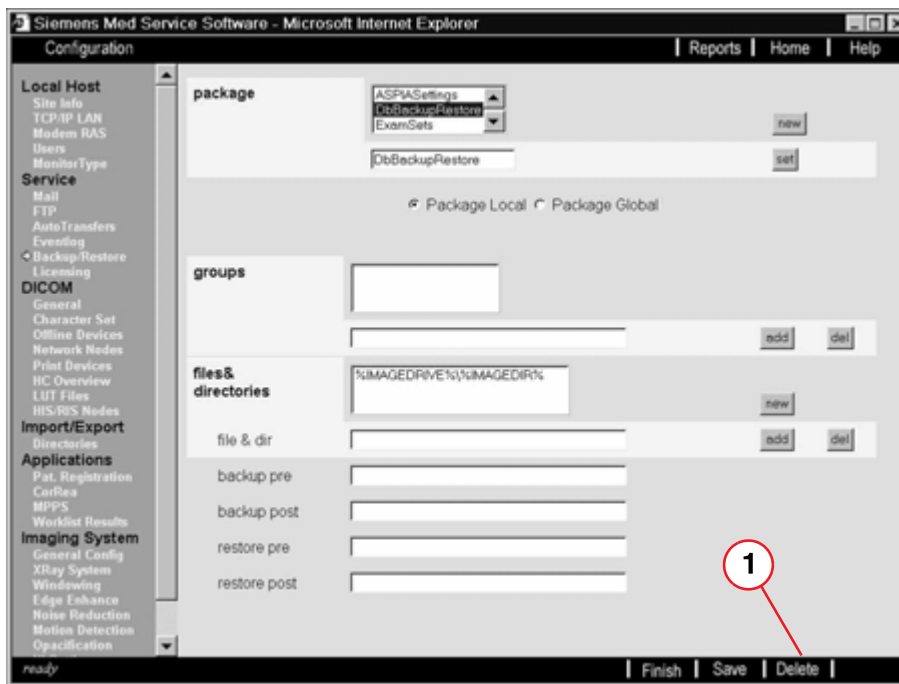

Fig. 115: Service_Backup/Restore_Package
- Select "DbBackupRestore" under "Package" and click on "Delete" in the footer bar of the screen ((1/ Fig. 115 / p. 124)).